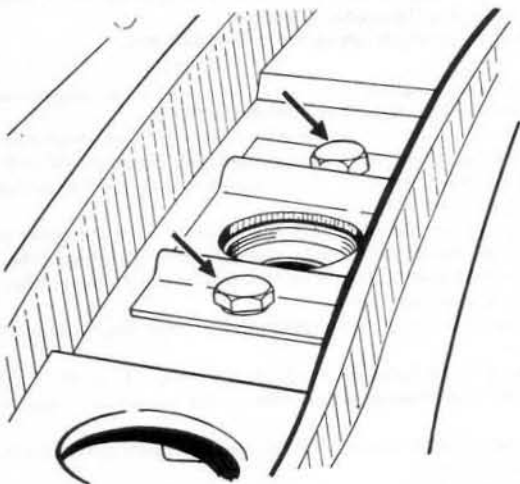

Fig.12.22. Location of the setscrews securing the bonnet catch striker plate
- 1 Open the bonnet and remove the two setscrews securing the bonnet catch striker plate (Fig.12.22). Take off the plate.